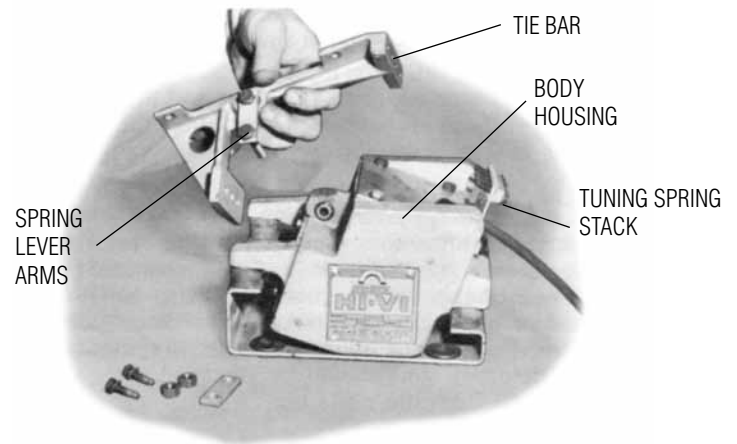

FIGURE 8
2. Remove, in order, the bolts securing (a) the upper end of the tuning spring stack to the tiebar, (b) the lower ends of the spring lever arms to the body housing, and (c) the lower end of the tiebar to the armature. Lift the tray-tiebar-lever assembly away from the body housing (See FIGURE 8).